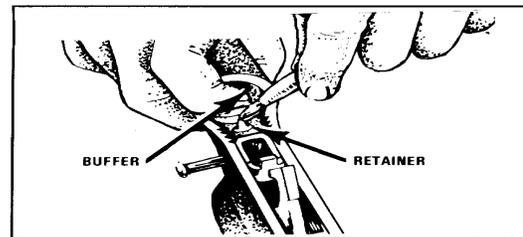
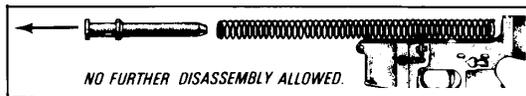

Figure 10-19. Separating the Buffer & Spring
Figure 10-20. Separating the Buffer & Spring
- r. Remove the buffer and action spring separating the buffer from the spring (figure 10-19 and figure 10-20).